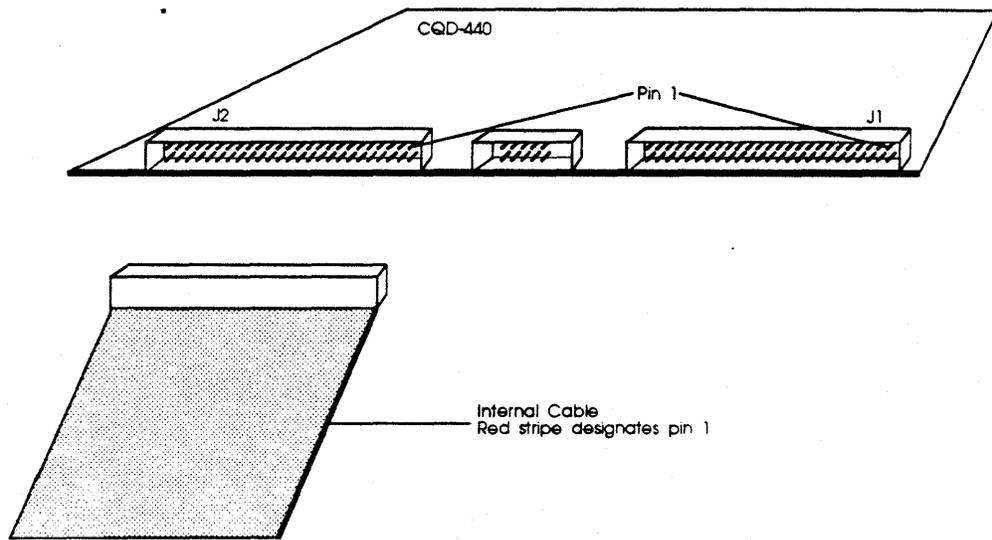

Figure 3-7: CQD-440 non-shielded cable connection
- 5 Connect SCSI cable to J1 for differential or J2 for single-ended of the CQD-440 using cable specifications given in "SCSI Bus Cabling." For the CQD-440, connector will be non-shielded, see Figure 3-7.